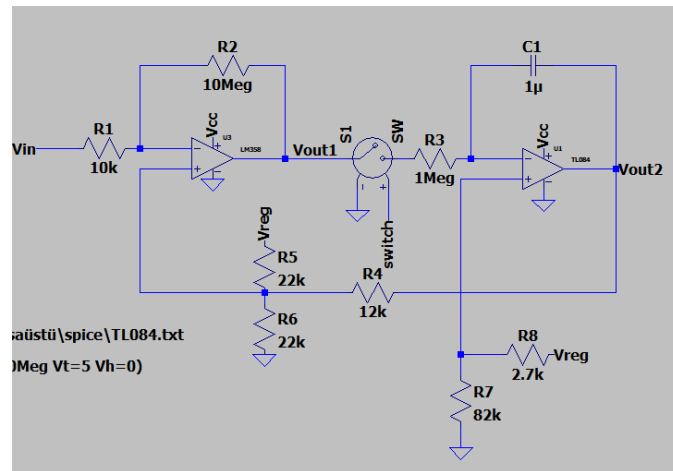
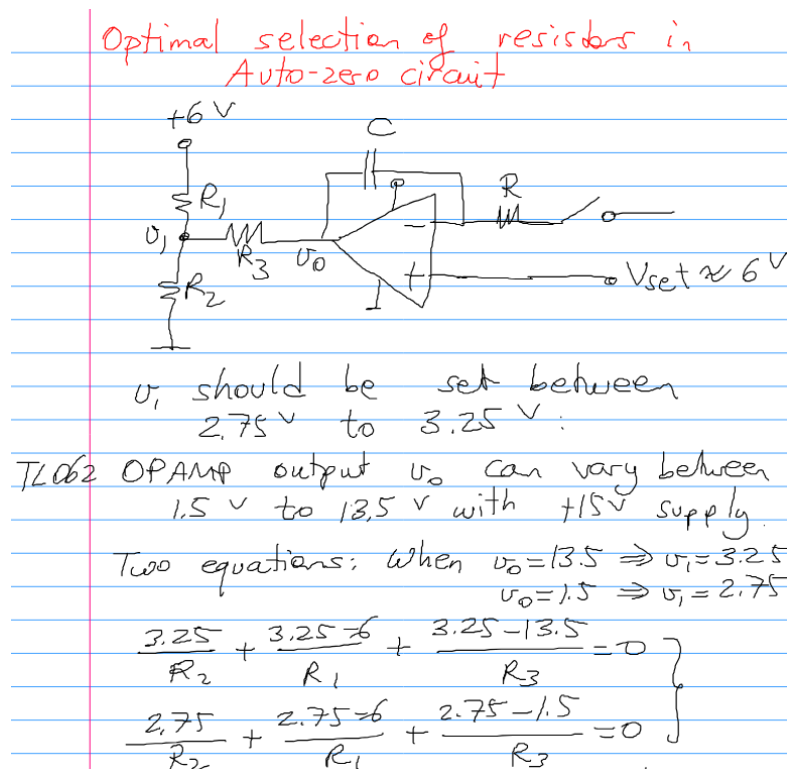

Figure 5: R1, R2, R5 and C1 values are changed
Figure 6: Voltage divider calculation for R1, R2 and R3
1. At first I observed that, my gain amplifier in the input, has a peak output even when I pushed the switch and after waited a while, meaning my differentiator doesn't work as in the simulation of LTspice. The difference between the inverting and non-inverting inputs are so high that, I encounter the maximum output of 13.5V of the opamp. I lower the value of R5, with trial and error. However, my gain was still so high, then I changed R1 and R2 from 10k Ω and 10M Ω to 1k Ω and 470k Ω , respectively. (the gain ratio). Finally reached approximately 6V at Vout1 (Figure 5). At first, I calculated the R1 value from Figure 6, however the value I found